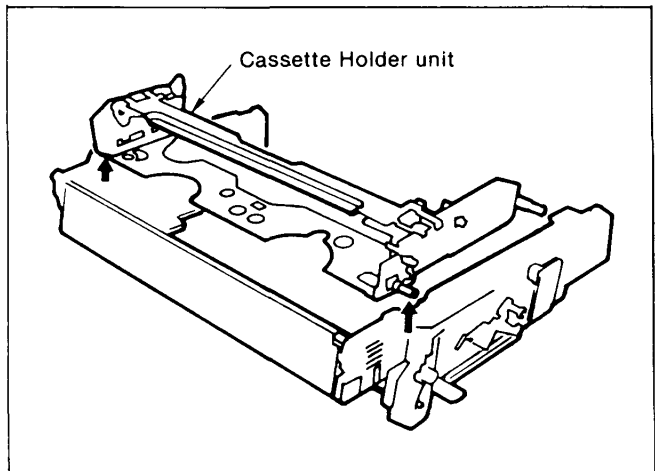

Figure M61 Removal of cassette holder unit
4. Take the cassette Holder unit out as shown in Figure M61.